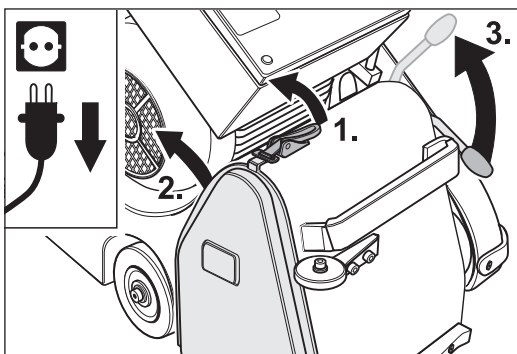

Fig. 78 Release the cover lock (1.), remove the side cover (2.) and lower the tensioning roller by pulling up the operating lever (3.).
- 2 Release the cover lock (Fig. 78, 1.) and remove the side cover on the right of the machine housing (Fig. 78, 2.).
- 3 Pull the operating lever of the drive unit upwards (Fig. 78, 3.). This will lower the tensioning roller.